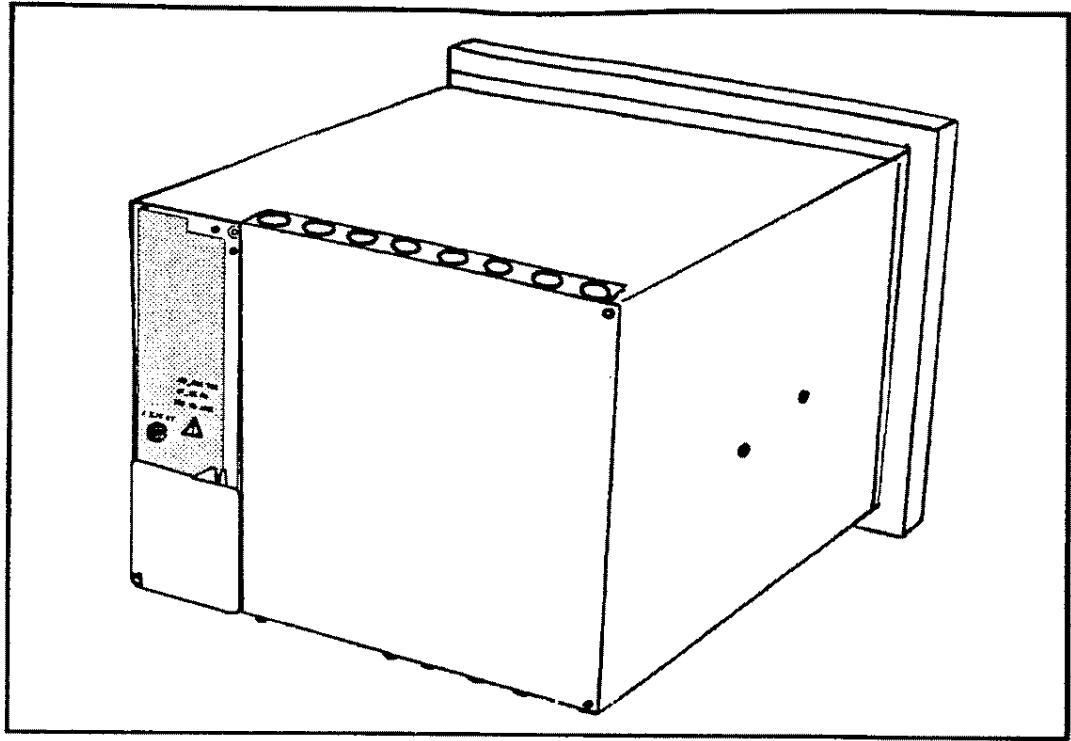

Figure 1-1 Rear of the recorder showing terminal cover
1. Isolate the recorder from main power. Remove the 4 screws securing the terminal cover plate at the rear of the recorder. See Figure 1-1.